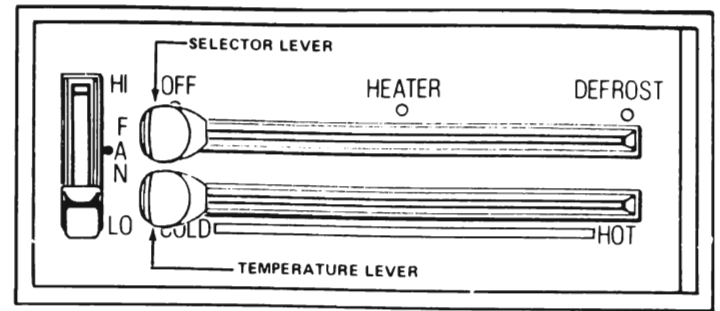

Figure 9A-1 Instrument Panel Control Assembly
The heater core, located in the heater assembly, has water flowing through it at all times. The water flow begins at the front of the intake manifold and flows to the lower (inlet) port of the heater core, thru the heater core, out the upper (outlet) port of the heater core and to the suction port of the water pump. See Figure 9A-18.
3. Heater Control Assembly - The heater control assembly (see Figure 9A-1) consists of three controls, namely the TEMPERATURE lever, SELECTOR lever and FAN switch.